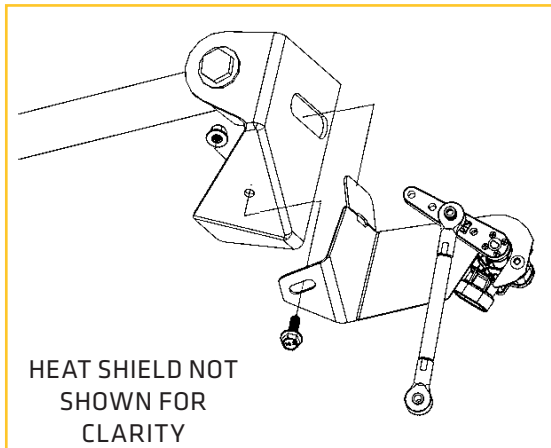

FIGURE 58 - RIGHT FRONT
1. Install the front RHS bracket assembly on the vehicle. The bracket will slide under the heat shield and attach to the frame using the same bolt for the heat shield. The provided nut will be installed to the back of this heat shield bolt. Tighten to 65 in-lbs (FIGURES 58, 59)